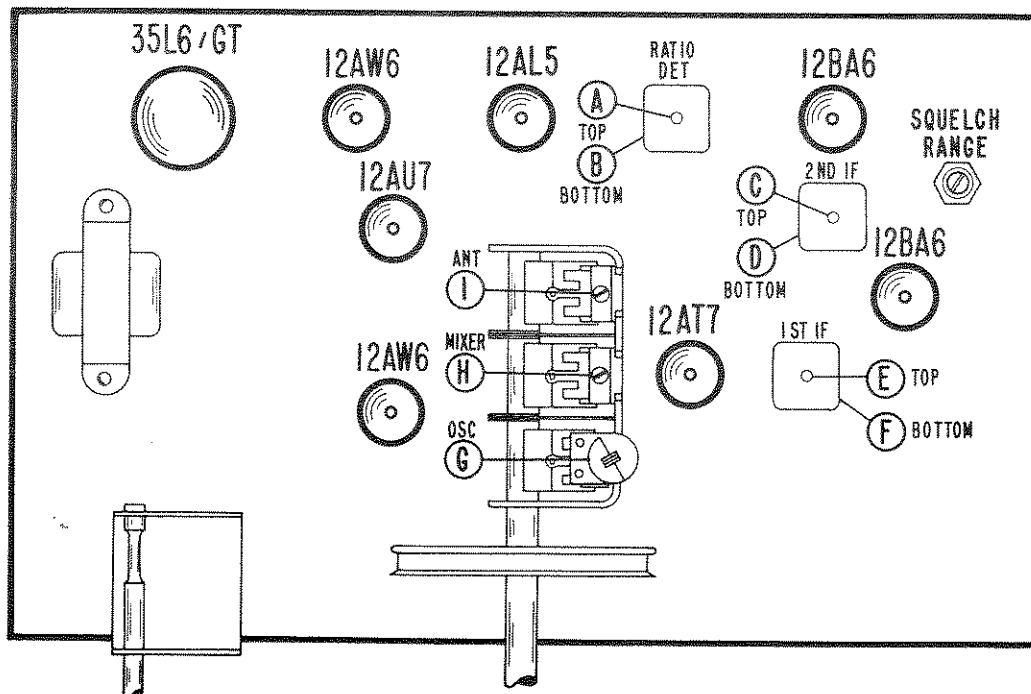

Figure 3. Tube Location And Alignment Adjustments
The Squelch Range control (See Fig. 3) adjusts the operating point of the output section of the 12AU7 squelch tube (V8). This control has been carefully adjusted at the factory for proper operation and will normally not require readjustment unless the squelch tube, relay, or components in the squelch circuit have been replaced. If adjustment is necessary, proceed as follows:
- See Fig. 3 for location of alignment adjustments.